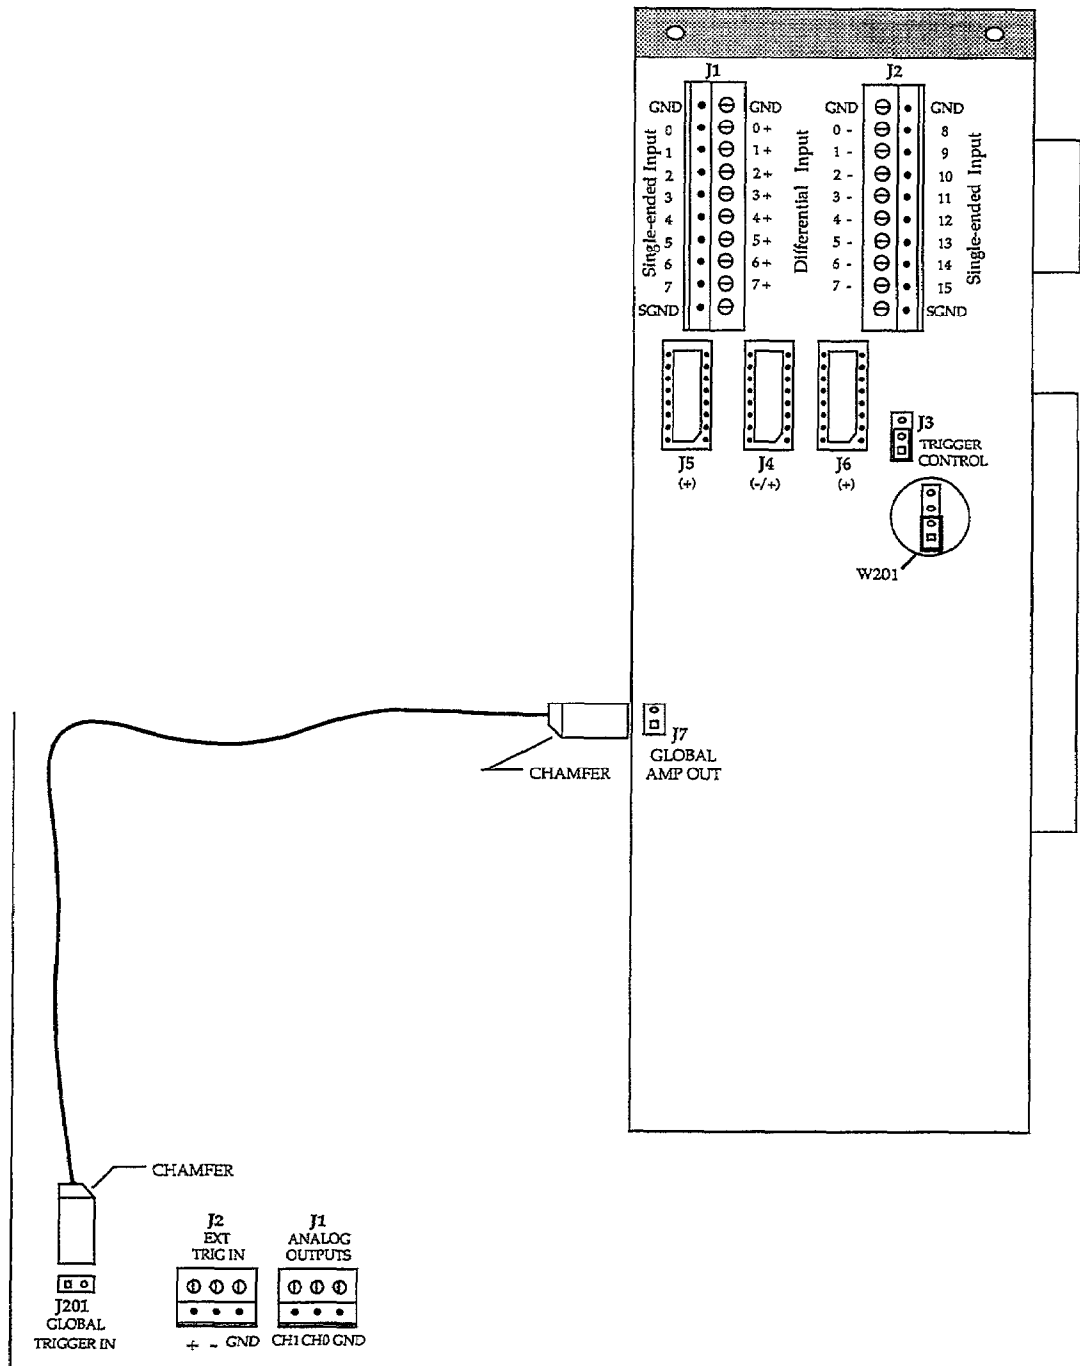

Figure 2-1. AMM Module and Analog Trigger Cable
5. Prepare the AMM module for installation. Confirm that trigger select jumper J3 on the AMM module is over pins 1 and 2 (see Figure 2-1). Confirm that trigger select jumper W201 on the Model 575 mother board is over pins 1 and 2.
9. Attach the trigger cable from the GLOBAL OUTPUT J7 at the top edge of the AMM module to the trigger GLOBAL INPUT terminal J201 on the Model 575 mother board using the supplied cable. Pay close attention to the orientation of the beveled corner on the connector at each end of the cable. (see Figure 2-1).